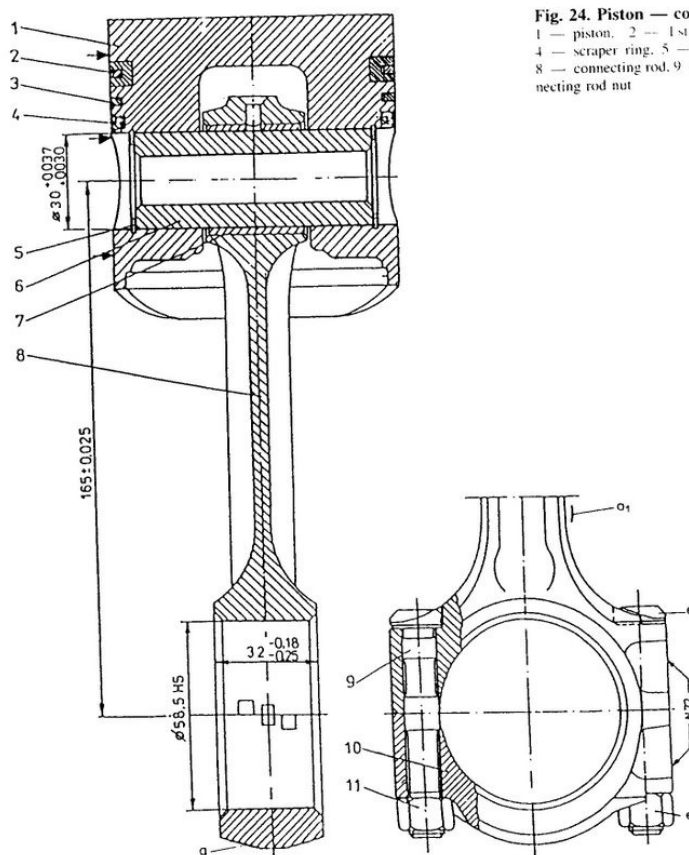

Fig. 24. Piston — connecting rod subassembly
The engine pistons (1, Fig. 24) are made of an aluminium alloy. The piston skirt is shaped as an ovalised barrel which changes during heating to a cylindrical. It ensures the proper mating of piston with its liner. In the first period of manufacturing of an engine 4C90 were used a nominal pistons which part number was 1.7.0540. For these pistons clearance between a liner and a piston skirt, for a cold engine, should be 0.15 mm.
- Using pliers remove compression rings and a scraper ring from a piston (1, Fig. 24).
- Remove retaining springs (5), securing the piston pin.
- Place the piston on a plate made from an aluminium or a hard wood and knock out the piston pin (6), using a hammer and a jumper. The plate should have a cylindrical seat with a radius minimum 45 mm (a half of the piston diameter) and a hole with a diameter 32 mm, for a piston pin, perpendicular to a seat. A diameter of a jumper should be 29 mm with a pivot
for 15° (pay an attention on identifying marks N72, Fig. 24).
- Press a new bush in such a manner that the contact surface of coiled bush edges will be on side of marks N72 (Fig. 24) and the lubrication holes of bush and connecting rod will match. Permissible is a shift of hole maximum 1 mm;
- Make marks with a punch on the bolt and nut faces, according to an item  $e$  of Fig. 24.